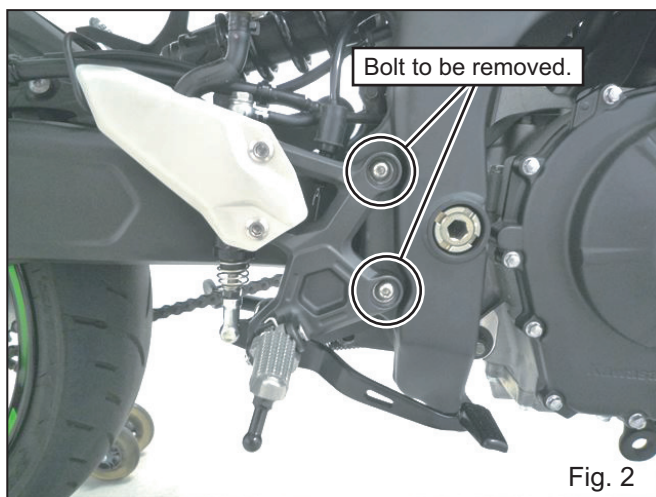
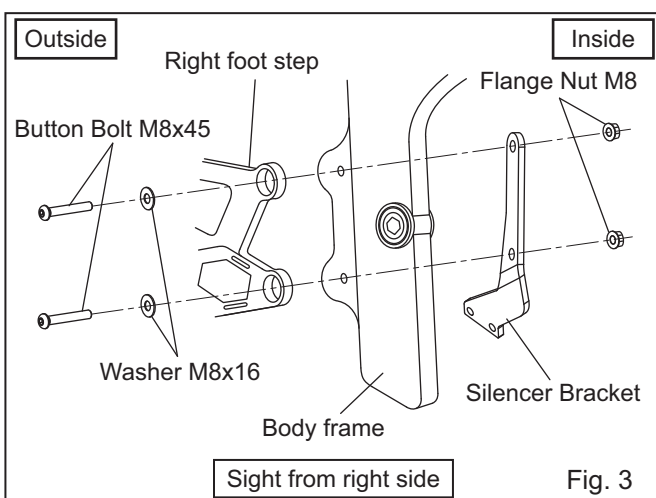

Fig. 2
Fig. 3
- 4) Remove 2 of stock bolt to fix right hand side foot step. (See Fig. 2) Remount it with 2 of each Button Bolt M8x45 and Washer M8x16. Then mount Silencer Bracket from back side and fix it with 2 of Flange Nut M8. (See Fig. 3) Fasten Button Bolt M8x45 and Flange Nut M8 alternately, and torque them with the specified torque. When using Yoshimura Rear Sets X-TREAD together, refer the instruction on page 5 and mount the Silencer Bracket.